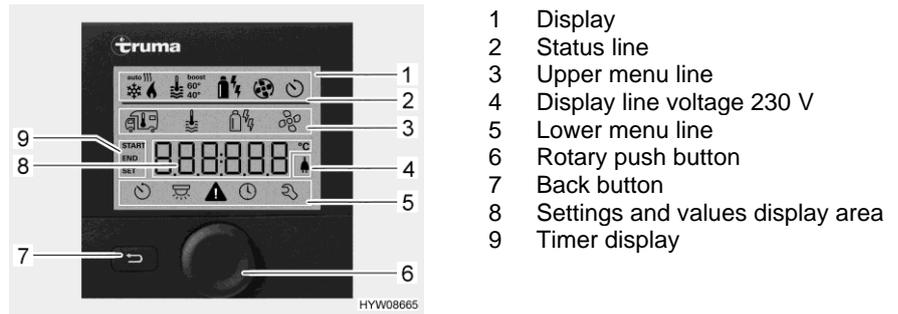
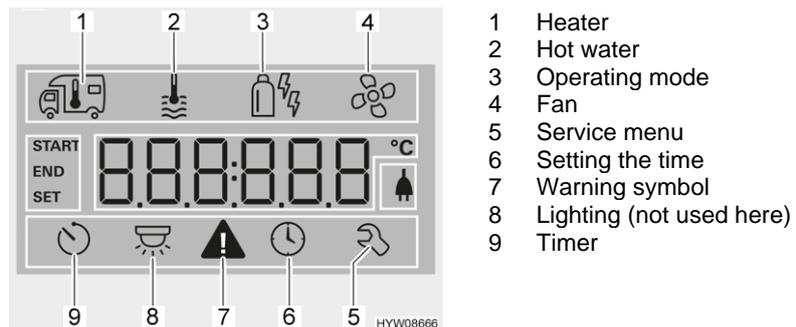

Fig. 88 Operating unit with displays
Fig. 89 Display (operating unit)
- Status line (Fig. 88,2)
- Upper menu line (Fig. 88,3)
- Display area (Fig. 88,8)
- Lower menu line (Fig. 88,5)
- Press and hold the rotary push button (Fig. 88,6) for approx. 3 seconds. Both menu lines (Fig. 88,3 and Fig. 88,5) are displayed. The first symbol flashes.
- Turn rotary push button (Fig. 88,6) until the required menu symbol flashes.
- Press rotary push button to save the value set. If you do not wish to change the value originally set: Press back button (Fig. 88,7).
- Turn rotary push button (Fig. 88,6) until the heater menu symbol (Fig. 89,1) flashes.
- Press rotary push button to save the value set. The symbol in the status line (Fig. 88,2) flashes until the room temperature set is reached. If you do not wish to change the value originally set: Press back button (Fig. 88,7).
- Turn rotary push button (Fig. 88,6) until the hot water menu symbol (Fig. 89,2) flashes.
- Press rotary push button to save the value set. The symbol in the status line (Fig. 88,2) flashes until the hot water temperature set is reached. If you do not wish to change the value originally set: Press back button (Fig. 88,7).
- Turn rotary push button (Fig. 88,6) until the menu symbol operating mode (Fig. 89,3) flashes.
- Press the rotary push button to save the set operating mode. To revert to the original setting: Press back button (Fig. 88,7).
- Turn rotary push button (Fig. 88,6) until the fan menu symbol (Fig. 89,4) flashes.
- Turn rotary push button (Fig. 88,6) until the timer menu symbol (Fig. 89,9) flashes.
- Press rotary push button. The timer is activated. The timer symbol (Fig. 89,9) flashes when the timer is programmed and active.
The warning symbol (Fig. 89,7) flashes in the event of a warning. The heater continues to operate. In the event of only a temporary fault, the warning symbol goes out automatically.